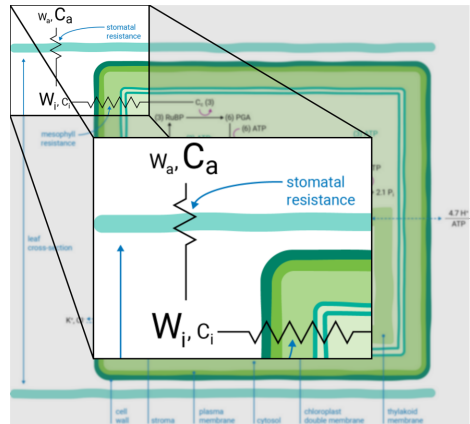

Figure 2. CO_2 and H_2O vapor move into and out of the leaf through stomatal apertures.
Atmospheric gases (CO_2 , O_2 , H_2O and others) diffuse into and out of the intercellular leaf air space through stomatal apertures (Figure 2). Stomatal apertures cause resistance to gas diffusion (3). The intercellular air space is assumed to be saturated for water vapor at leaf temperature (4). The relative water vapor concentration within the leaf (W_i) is typically greater than the water vapor concentration in the atmosphere (W_a) as a result of this stomatal resistance. Stomatal resistance also results in a lower CO_2 concentration in the leaf intercellular air spaces (C_i) than in the atmosphere (C_a).